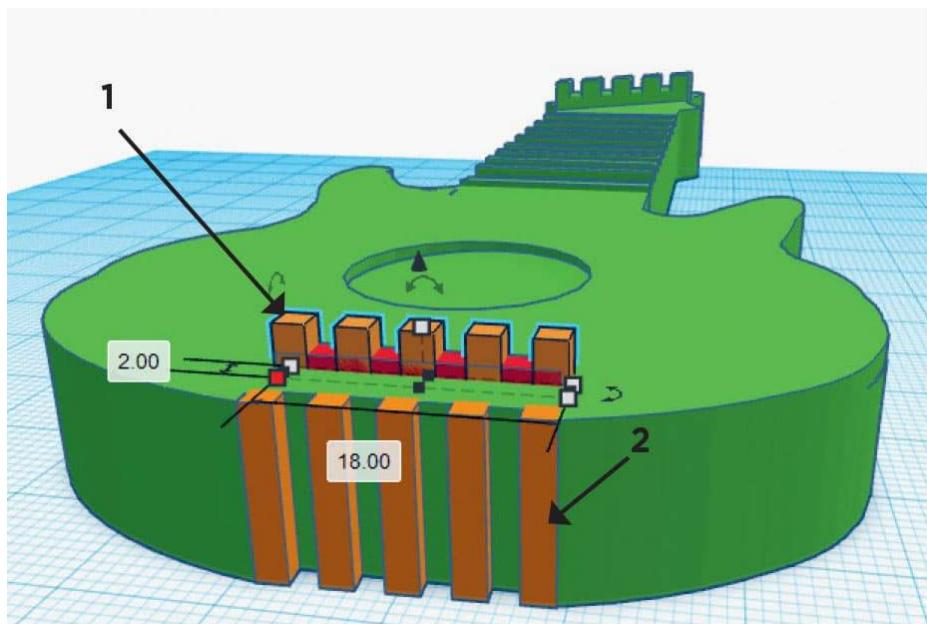

FIG. 8: Use boxes to create a bridge and the guitar string conduits.
6. The bridge raises the guitar strings off the guitar body so they can vibrate freely to produce clear sound. The bridge is created using basic box shapes (fig. 8). Take care to align the bridge to the corresponding bridge on the headstock of the guitar (fig. 8, arrow 1).
7. The string conduit guides the string along the back of the guitar where it can be fastened. The ridges along the side of the guitar body in fig. 8, arrow 2 and the ridges on the back of the guitar body in fig. 9 show an example of the conduit design. Take care to ensure the guitar body always has a 2 mm thickness at all points, except the sound hole on the top center.